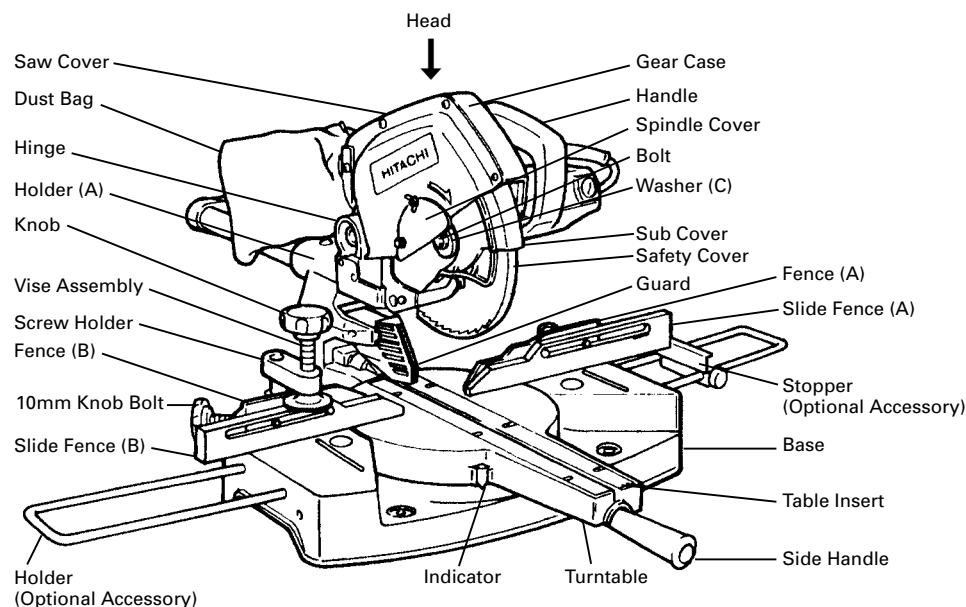
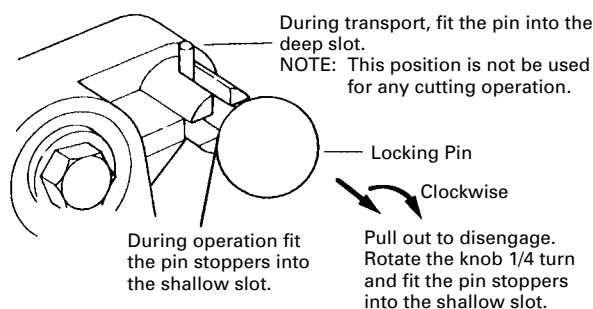

Fig. 1
Fig. 6-b
When the power tool is prepared for shipping, its main parts are secured by a locking pin. Move the handle (see Fig. 1) slightly so that the locking pin can be disengaged and adjusted as indicated in Fig. 6-b.
NOTE: Lowering the handle (see Fig. 1) slightly will enable you to disengage the locking pin more easily and safely.
Attach the dust bag, holder, stopper and vise assembly, slide fence (A) and slide fence (B) as indicated in Fig. 1.